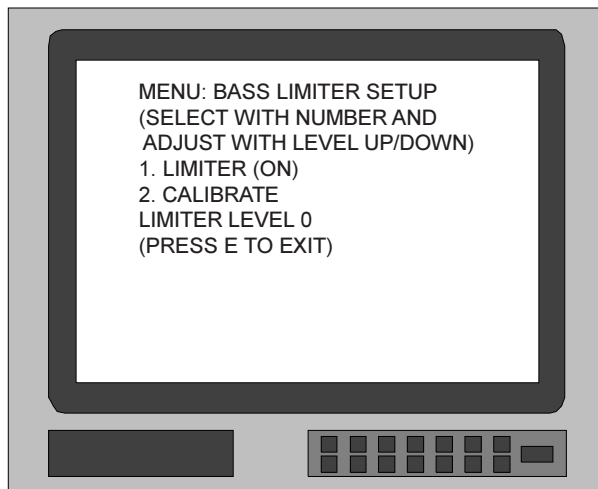

Figure 14
4. Press pushbutton number 2 to access the Limiter calibration mode. Refer to Figure 14